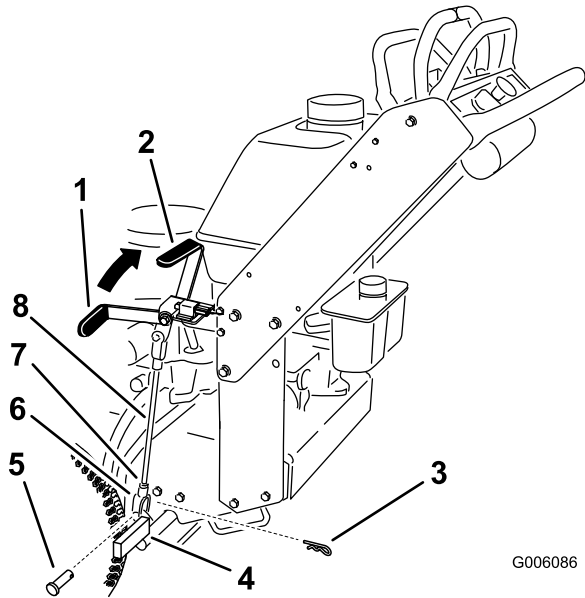

Figure 47
Note: When the brake is engaged, the brake handle should be in the 1 o'clock position (Figure 47).
5. Loosen the top and bottom jam nuts (Figure 47).
6. To adjust the brake, remove the hair pin cotter and clevis pin from the lower brake lever (Figure 47).
7. Rotate the brake rod in the yokes. To tighten the brake, lengthen the rod between the yokes. To loosen the brake, shorten the rod between the yokes (Figure 47).
8. Secure the yoke to lower brake lever with the hair pin cotter and clevis pin (Figure 47).
9. Tighten the top and bottom jam nuts (Figure 47).